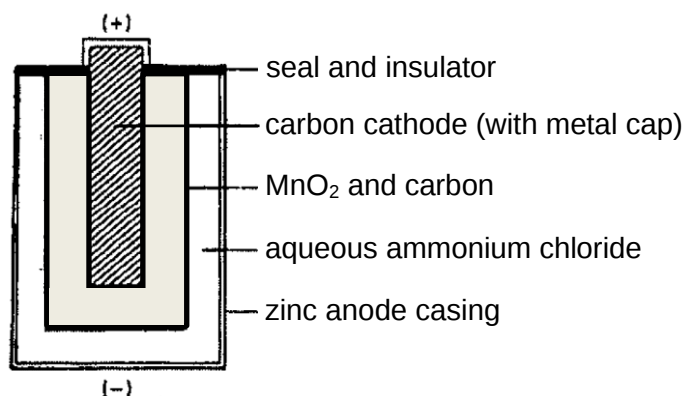

Fig. 8.1
- (b) (i) Calculate the standard cell potential, E^θ_{cell} , for the reactions that occur in the Leclanché cell shown in Fig. 8.1 and Table 8.2.